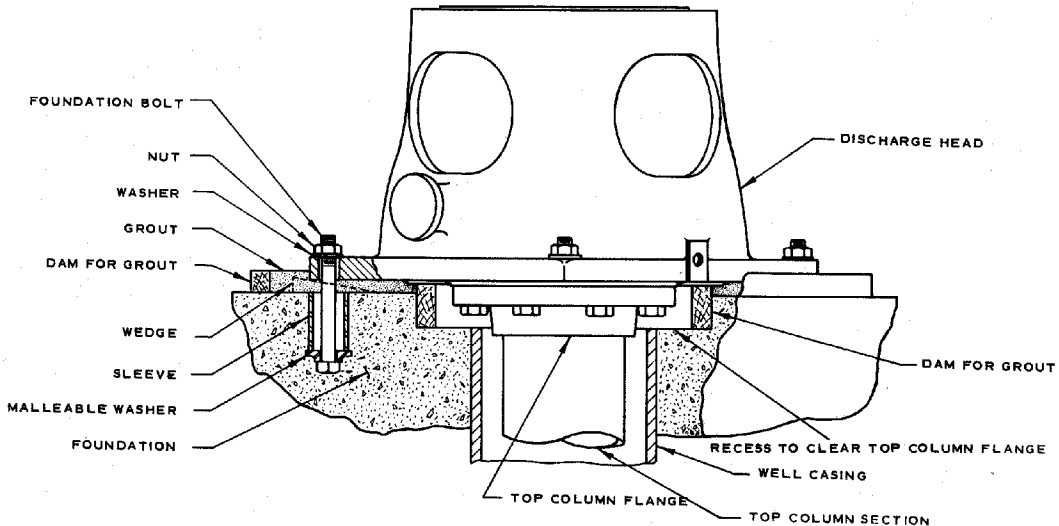

Fig. 4-1. Foundation And Grouting Details.
A. It is strongly recommended that a substantial concrete foundation be built around the well before the pump is installed. The original pump shaft alignment will last only as long as the foundation supports the pump in a stable position. If the pump discharge head has a protrusion below the base which is wider than the well casing, the top of the casing must be far enough below the foundation surface to clear such a protrusion. In this case a dam must be provided around the well casing to retain the grout which will later be poured between the discharge head and the foundation. (See Fig. 4-1). If the well casing is wider than any protrusion of the discharge head below the base, the casing itself can be used as a dam for the grout.
D. Foundation bolts (hold-down, or anchor, bolts) are not required for pumps with discharge pressures less than 10 psi and column lengths greater than 50 feet, when driven by a motor or steam turbine or through a right-angle gear unit. Pumps with column lengths of 50 feet or less, or discharge pressures of 10 psi or more, and all pumps which are belt-driven, should be anchored by sleeve-type, or equivalent, foundation bolts. (See Fig. 4-1.) Sleeve-type bolts are recommended because they allow some flexibility in the final positioning of the discharge head. They are also con-